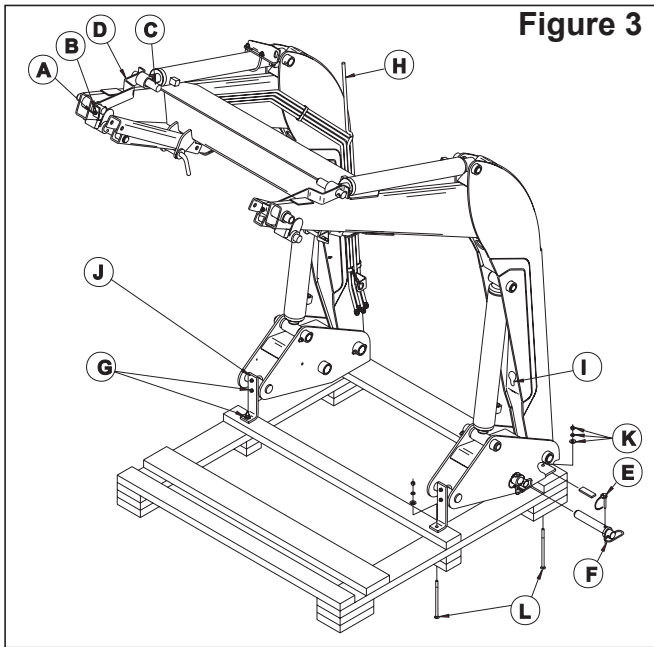
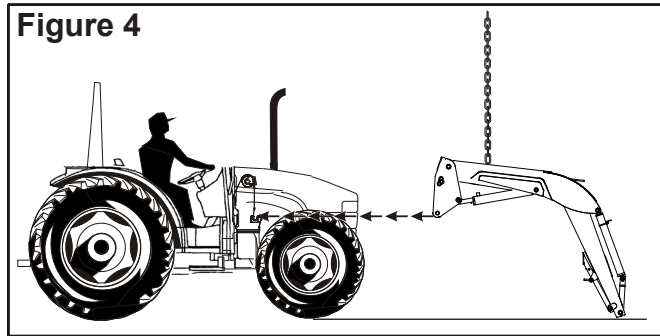

Figure 3
Figure 4
3. Cut tie straps, remove lynch pins (E) and hitch pins (F) (see figure 3) and keep with loader for securing uprights to mid-mounting brackets later.
4. Remove hardware (G) from shipping bracket (J). Discard brackets and hardware. Remove nuts and washers (K) from bolts securing loader to pallet. Raise loader.
5. Remove all four carriage bolts (L) from pallet (see figure 3) and position pallet at rear of loader to facilitate lowering (see figure 2). Lower loader from vertical shipping position to horizontal position (scraps of cardboard may be used to protect paint). Remove bucket level indicator rod (H) attached to oil lines for shipment.
7. Secure a hoist strap around the boom arm assembly or secure with a chain hook into hole (I) on underside of boom arm (see figure 3). If using a strap, the strap should be located around the boom arm near the same location as the chain hook hole, similar to figure 4. Slowly raise loader with overhead hoist until loader upright will clear front tractor tires (see figure 4).
11. Remove hoist chain or strap from loader boom and secure to each bucket cylinder shipping brackets (D) (see figure 3). Using overhead hoist raise front of loader to rotate loader upright into upper mount saddle (see figure 6). Continue to rotate loader upright until upright has fully seated into back of mount saddle. Insert two 1-1/4" x 7" pins (F) and linch pins (E) which were removed from loader uprights in step 3 (see figure 7). Remove hoist chain or strap from shipping brackets.
12. Remove 3/8" cap screws (A), lock nuts (B), pins (C) and shipping brackets (D) (see figure 3). Discard shipping brackets, retain hardware for further use when installing bucket or attachment.